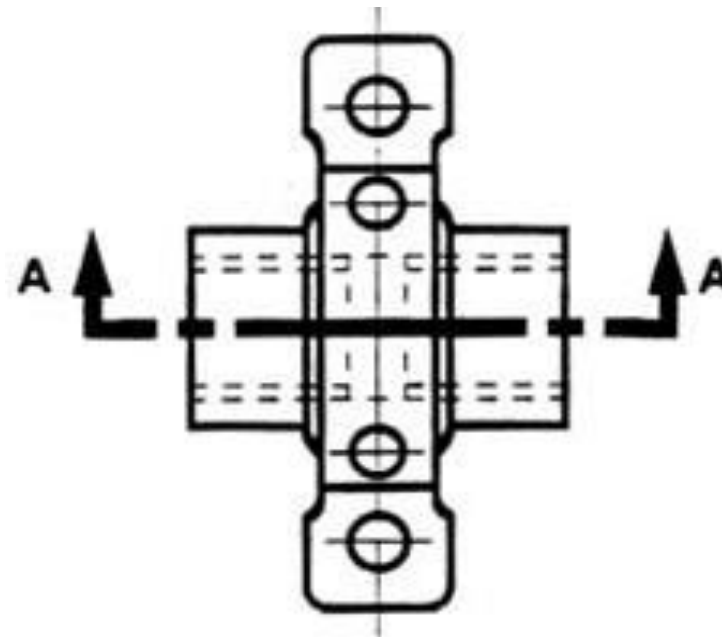

Figure 18 - The top "outside" view of the bearing
- The top "outside" view of the bearing is shown in figure 18. It is an orthogonal (perpendicular) projection. Notice the direction of the arrows for the "A-A" cutting plane.